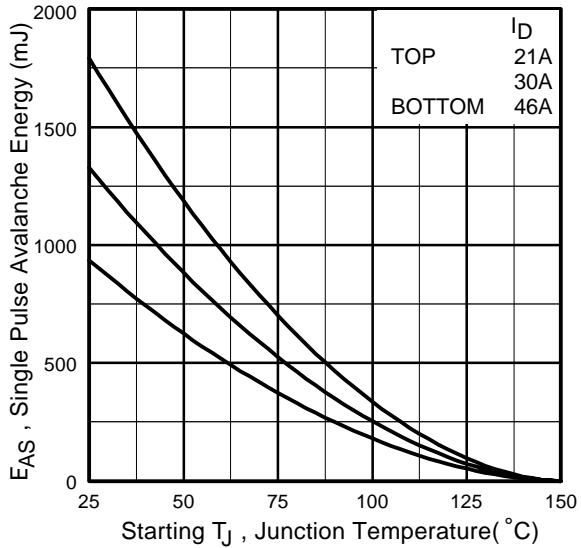

Fig 12a. Maximum Avalanche Energy Vs. Drain Current
- ② Starting $T_J = 25^\circ\text{C}$, $L = 0.86\text{mH}$, $R_G = 25\Omega$, $I_{AS} = 46A$ (See Figure 12a)
- ③ $I_{SD} \leq 46A$, $di/dt \leq 367A/\mu s$, $V_{DD} \leq V_{(BR)DSS}$, $T_J \leq 150^\circ\text{C}$.
- ④ Pulse width $\leq 400\mu s$; duty cycle $\leq 2\%$.
- ⑤ $C_{oss \text{ eff.}}$ is a fixed capacitance that gives the same charging time as C_{oss} while V_{DS} is rising from 0 to 80% V_{DSS}